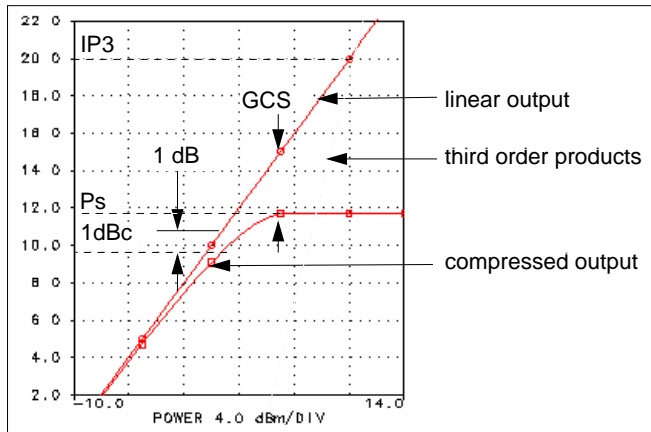

Figure 1-4. OmniSys Parameter Information
7. OmniSys used GComp1-GComp7 data items for specifying gain compression. Table 1-1 summarizes the gain compression data for OmniSys and ADS. Refer to Figure 1-4 for OmniSys parameter information.